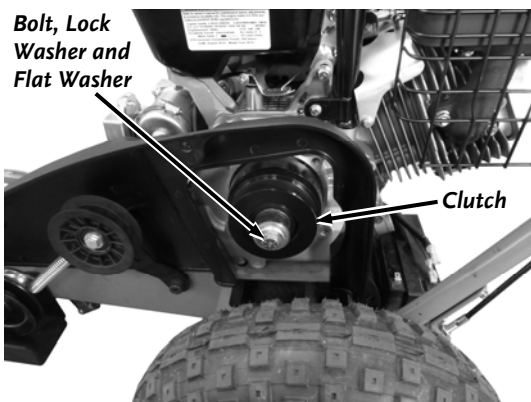

Figure 25
2. Place a 1/2" Wrench (Premier) or 5/8" Wrench (Pro and Pro-XL) onto the Clutch Bolt and rotate the Wrench counterclockwise until you feel some resistance (**Figure 25**).